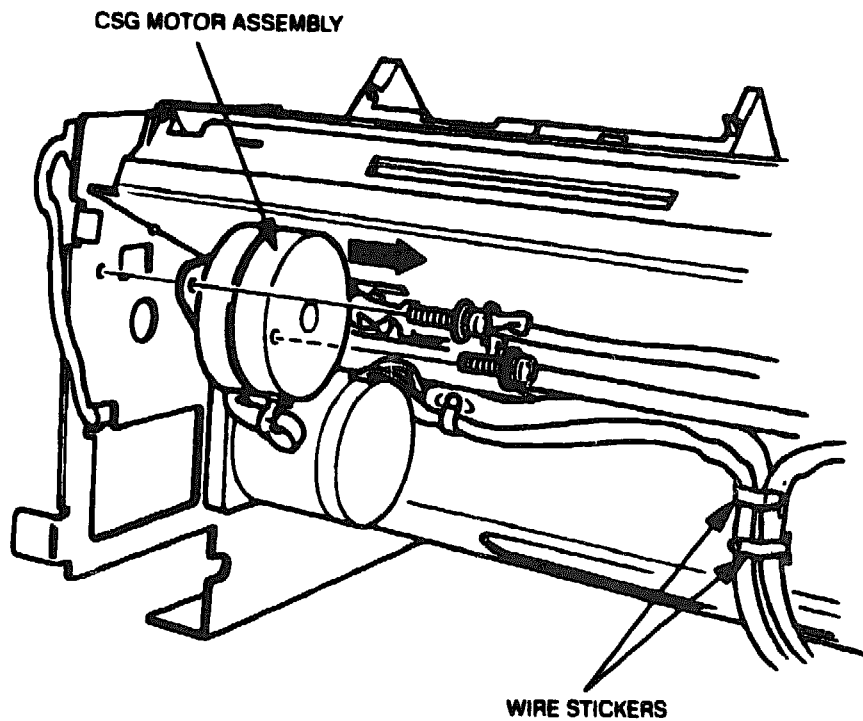

Figure 6-86 Cut Sheet Guide Motor Assembly Removal
3. Place the mechanism flat on the worktable. Then remove the cable from the two wire stickers on the lower base plate (see Figure 6-86).
4. Remove the two screws shown in Figure 6-86 securing the cut sheet guide motor plate to the lower side plate (R) and lift the cut sheet motor assembly off the mechanism unit.